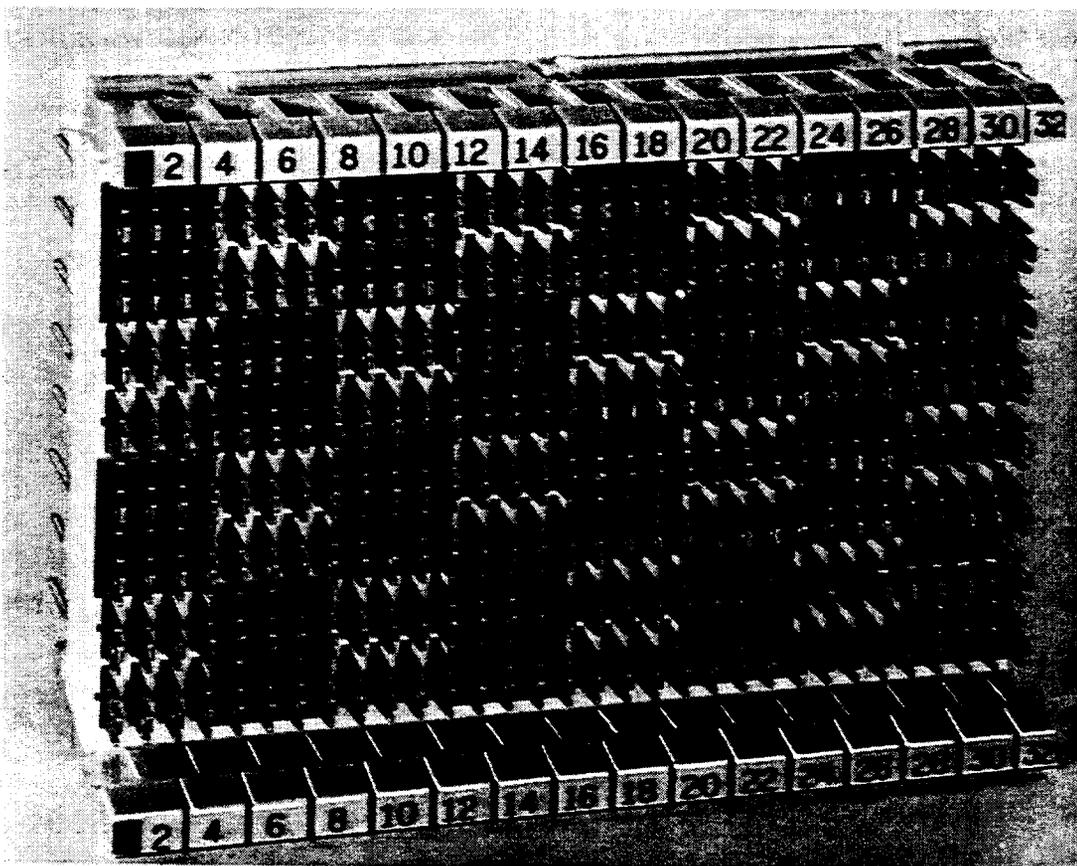

Figure 34—112-Type Connecting Block — 128-Pair Terminal Arrangement
8.10 The 112-type connecting blocks (Figure 34) are designed for use with all AT&T COSMIC Distributing Frame Systems. These connecting blocks are a molded plastic design with bifurcated insulation displacement-type quick-clip or wire-wrap terminals. The front of the block is used for jumper cross-connections. Wire-wrap terminals for cable terminations are located at the rear of the block. The terminals are solder plated.